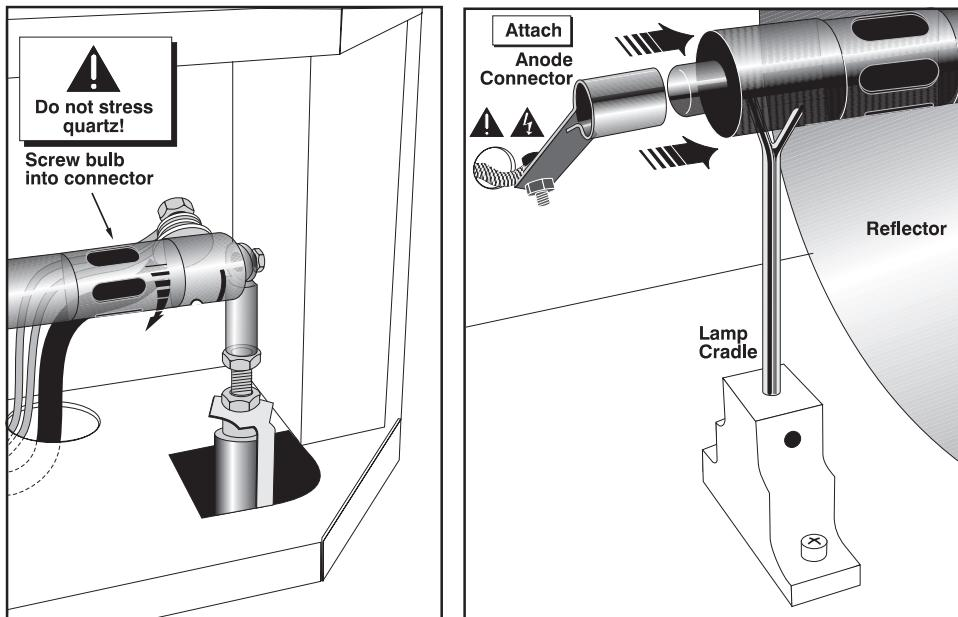

Figure 4.1 Install Lamp
2. Rest the anode (+) end of the lamp on the lamp cradle as shown in Figure 4.1, right, and slip the positive lamp connector over the bulb end.